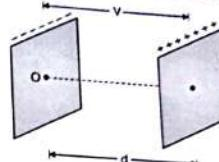

Fig. 7.1.1
- As electron is a negatively charged particle with $e = 1.6 \times 10^{-19} \text{ C}$ and mass $m_e = 9.1 \times 10^{-31} \text{ kg}$; for the arrangement shown in Fig. 7.1.1 we can derive the following.
- In the Fig. 7.1.1 two plates are separated by spacing 'd' and potential difference V. The plate on RHS is positively charged.